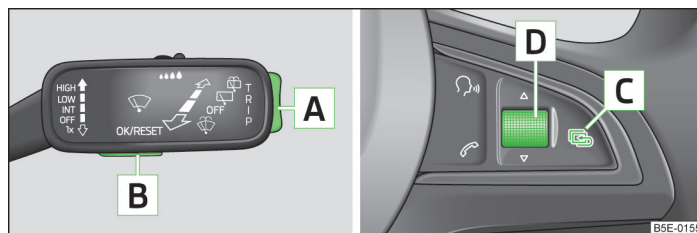

Fig. 10 Buttons (adjustment wheel) on the operating lever/multifunction steering wheel
- With the button **A** » Fig. 10 or, if applicable, the adjustment wheel **D**, select the menu item **Warning against excessive speeds**.